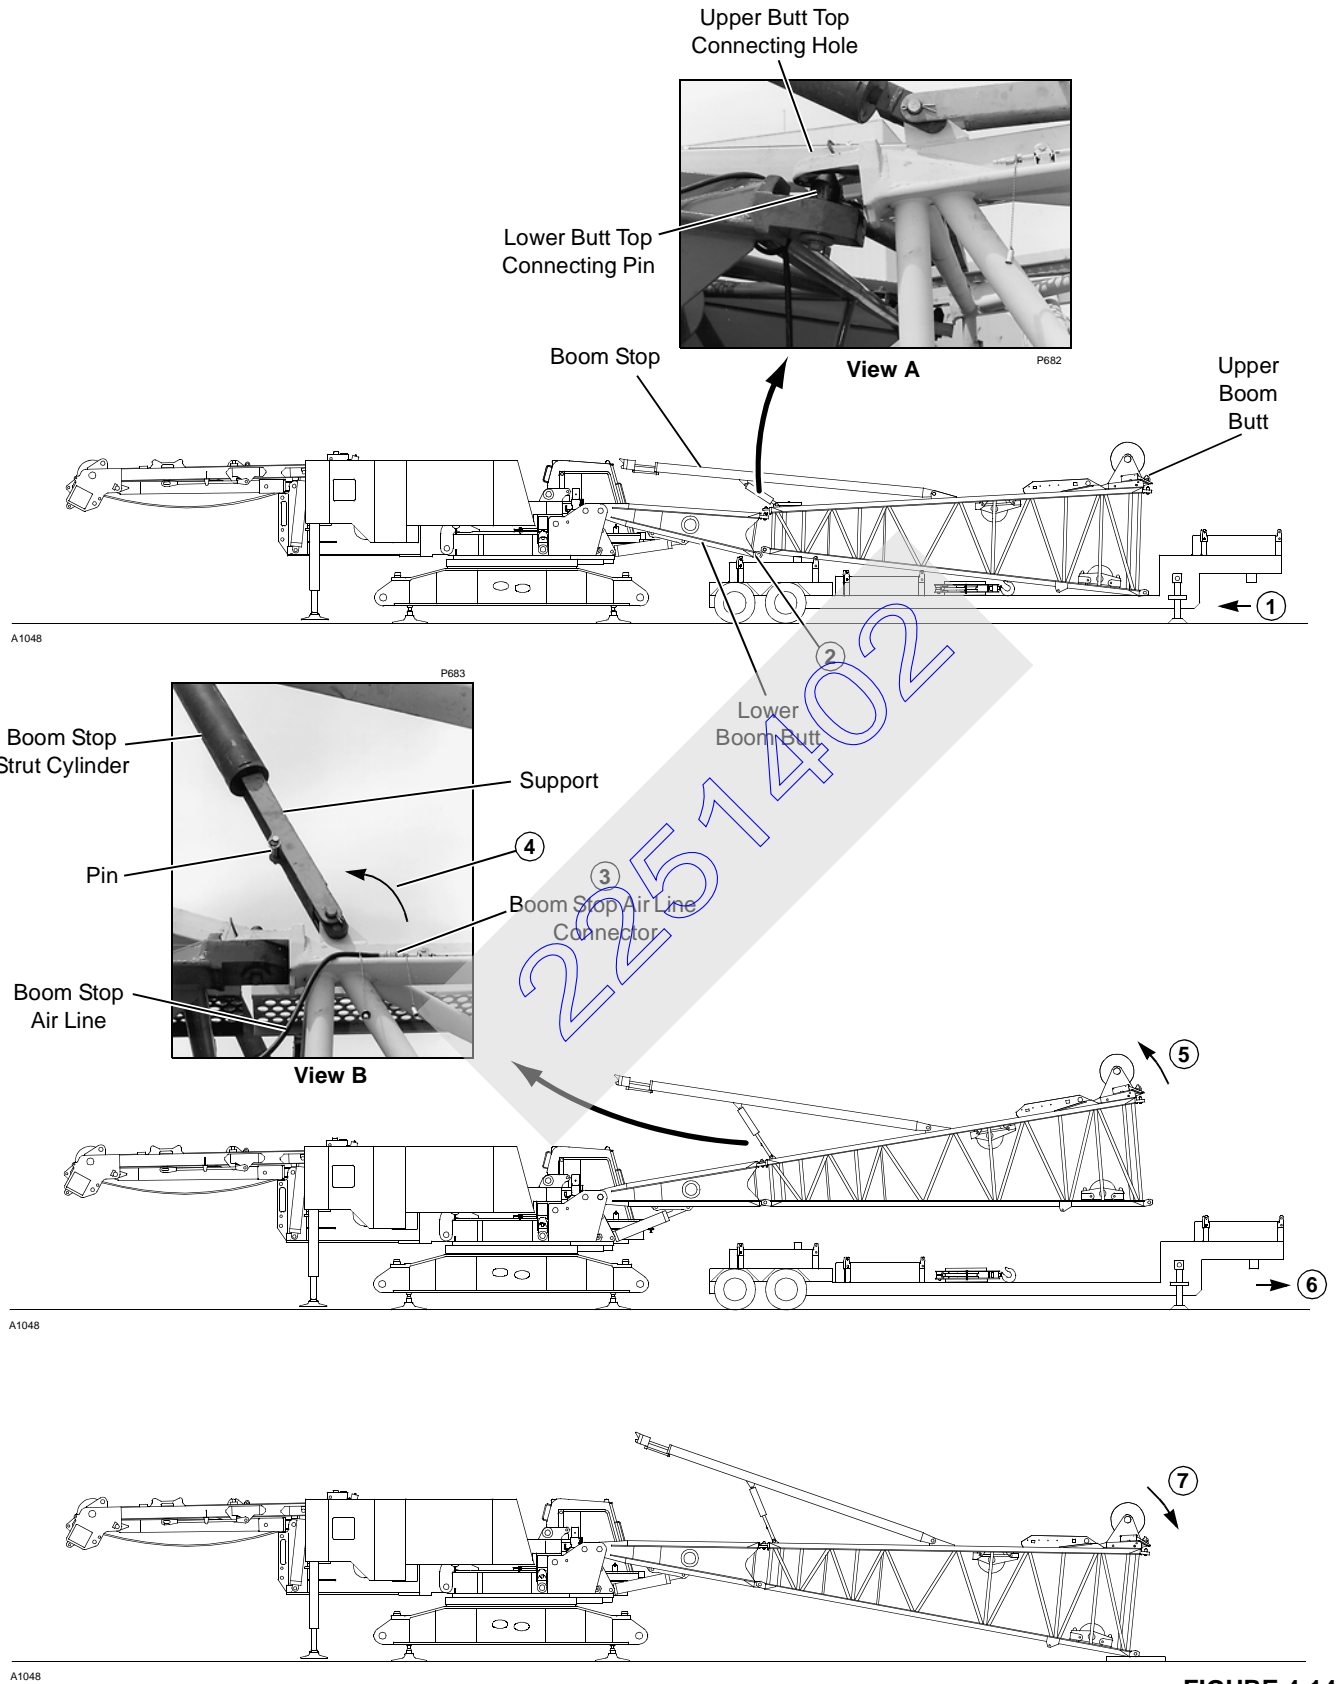

FIGURE 4-14
NOTE: Circled numbers in Figure 4-14 correspond to numbered procedure steps.
1. Position trailer carrying upper butt in line with lower butt. Move trailer and boom up and down as needed to engage top connecting pins in lower butt with top connecting holes in upper butt (Figure 4-14, View A).
3. Connect boom stop air line from lower butt to quick-coupler on right side of upper butt (Figure 4-14, View B). Stand clear as the boom stops rise.
4. Swing supports for boom stop strut cylinders up to operating position; pin in place (Figure 4-14, View B).